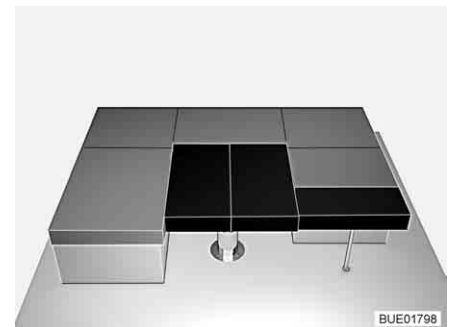

Fig. 104 After conversion
- Place the small additional cushion on the bedding box extension (see Fig. 104).